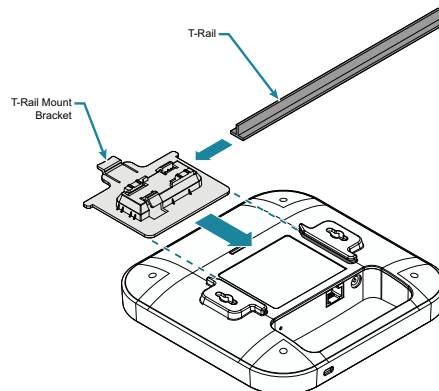

Figure 3. BSAP T-Rail Mount Brackets
Position the BSAP 6020 for maximum throughput and range between other APs and wireless client devices. The BSAP 6020 ships with plastic flush and recessed ceiling mounting brackets (T-rail kits) to mount the BSAP on the ceiling tile separators of standard and recessed dropped ceilings. Complete these instructions and refer to Figure 3 to mount the BSAP 6020 to a dropped ceiling:
1. Attach the T-Rail mounting bracket to the back of the BSAP by sliding the bracket into the recessed area behind the keyed slots until locked into place (refer to Figure 3 on page 3).